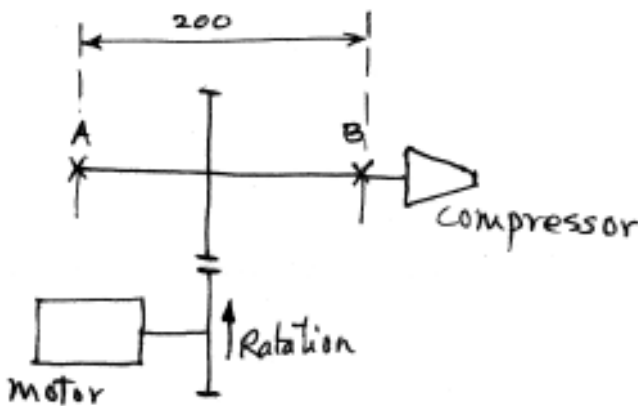

Figure. 1 (Que. No. 2 c)
- c) A shaft transmits 5.75 KW power at 2880 rpm from motor to the compressor through a helical gear arrangement having velocity ratio of 6 : 1 as shown in figure 1. A gear is mounted at the centre of the shaft 'AB' of the compressor. The shaft is supported on deep groove ball bearings at both ends A and B. The centre distance between bearings is 200 mm. The required reliability of the bearing is 95 % with life of 8000 hours. Find the dynamic capacity of the bearing, when the bearings with inner race rotating are selected from the manufacturer's catalogue, which lists dynamic capacity at 90 % reliability. Use following data : 10